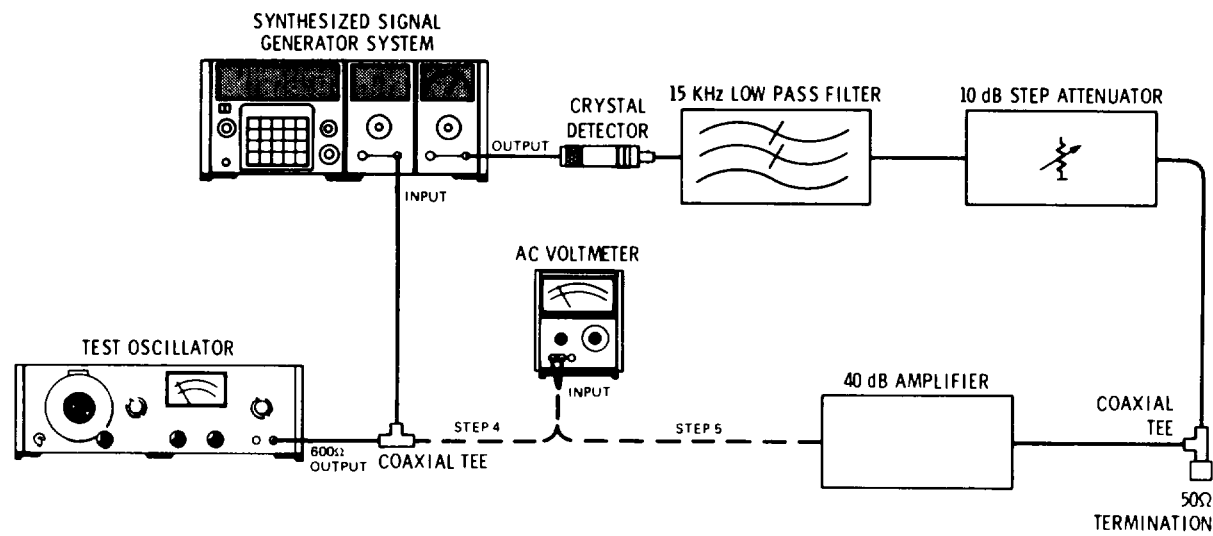

Figure 4-9. Signal-to-AM Noise Test Setup
3. Connect the equipment as shown in Figure 4-9.